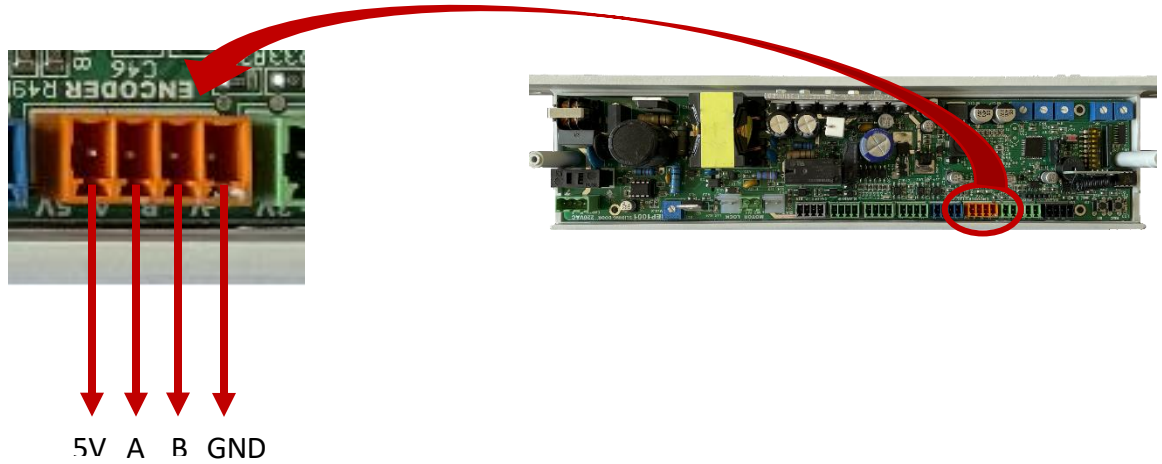

Figure 2: The position of the encoder on the card, input types, and a close-up view.
- 1) **Encoder:** The position information of the door is achieved through a 100-pulse phase-shifted input on the card. The overall appearance and input types are shown in Figure 2. **MAKE SURE THAT THE + AND - CABLES ARE PROPERLY CONNECTED. INCORRECT CONNECTION CAN CAUSE DAMAGE TO BOTH THE MOTOR AND THE CARD.**